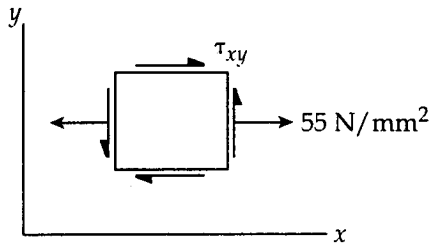

Fig. 3
4. (a) The state of stress at a point in a structural member is as shown in Fig. 3. The tensile principal stress is known to be 84 N/mm^2 . 7